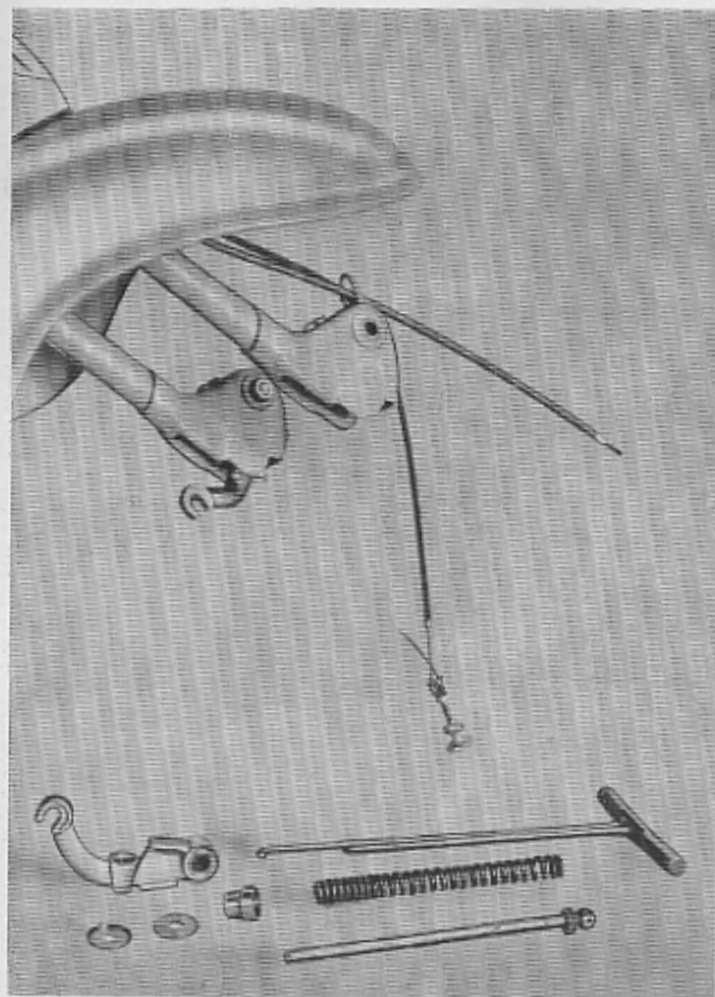

Fig. 39
- 61** Remove spring guide pistons, the springs and piston guide ring, using for the last item a hook off in case of difficulty. (See fig. 39).